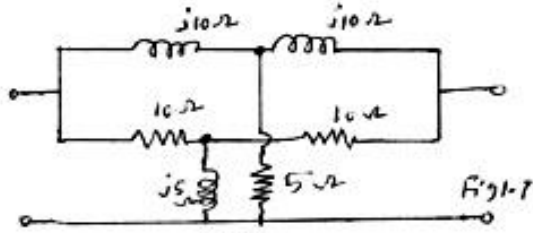

Fig 1.7
11. For the network shown in fig.1.7, obtain the single delta connected equivalent circuit.